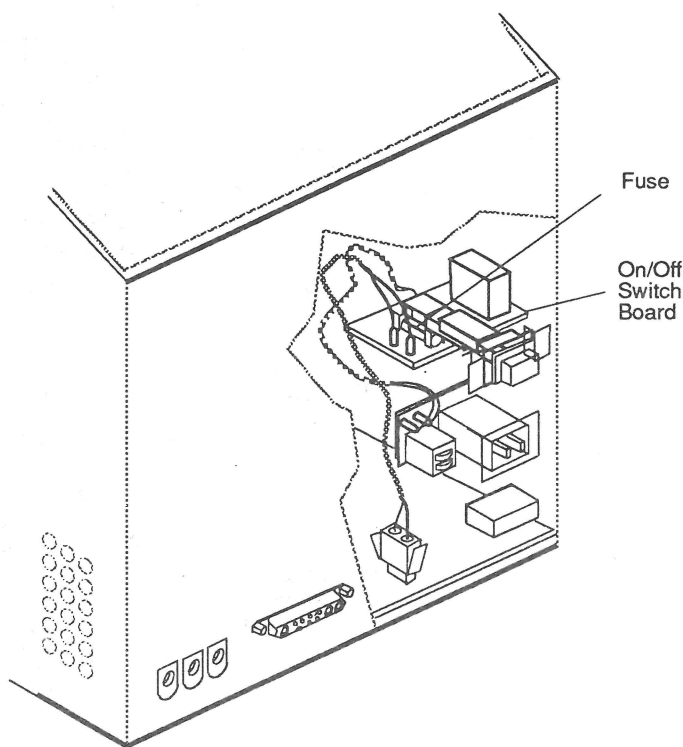

FIGURE 17
3. Remove the fuse from the on/off switch board (**Figure 17**). Gently pry up one end of the fuse with your fingers or a flat-blade screwdriver, and lift the fuse out of the holder.
1. Using your fingers, carefully snap the new fuse into the fuse holder (**Figure 17**).